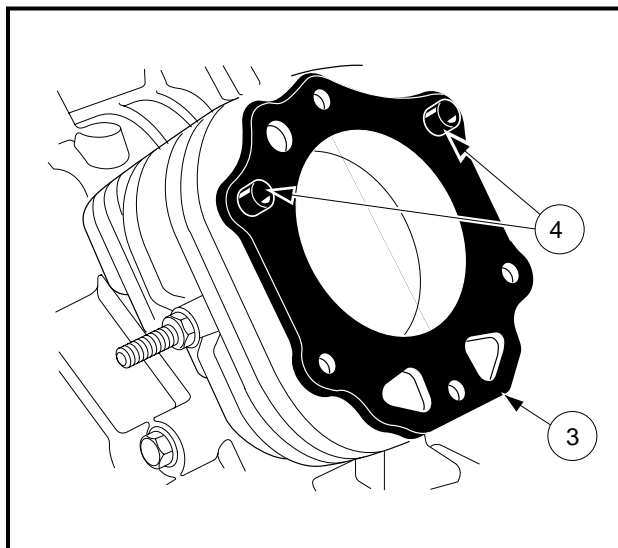

Figure 13-12 Head Gasket
2. Remove head gasket (3). Note the position of the two dowels (4) as shown (**Figure 13-12, Page 13-11**).